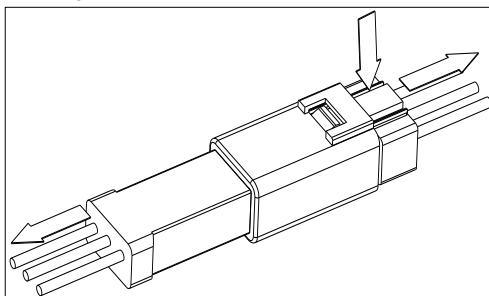

Fig. 6-2 Disconnect the watertight cable connector
2. Disconnect the watertight cable connector from cooling fan, as shown in Fig. 6-2.